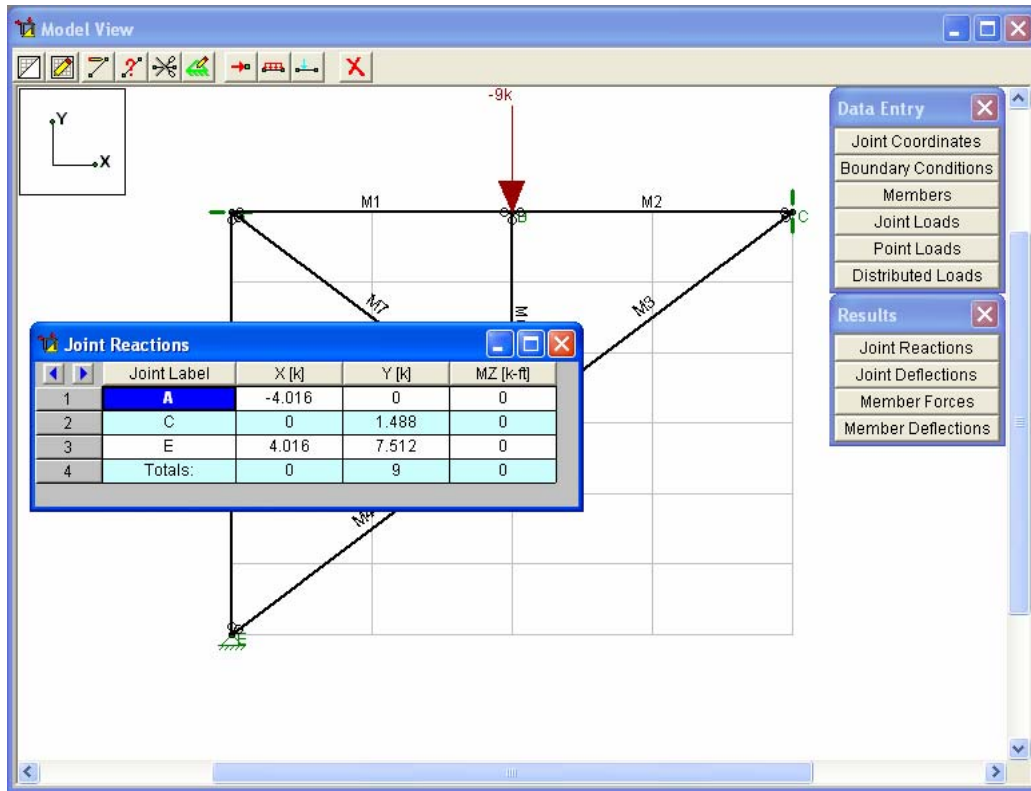

Figure 12
- (12) Now click **Solve** (or click the  icon) from the manual bar. The program will perform the structural analysis. A **Results** toolbar will appear if the analysis is successful (see Figure 12). (Clicking **Results** from the manual bar and select **Results Button Toolbar** can also activate this toolbar.) If the data entry is incomplete or the structure is unstable, the program will issue an error message. A **Joint Reactions** spreadsheet summarizing all the reaction forces will also appear in the window. The last row represents the summation of all reaction forces in the X and Y directions, respectively, which can be used to check global equilibrium. Figure 12 shows that the sum of horizontal reactions is equal to zero. In the vertical direction, the summation of the vertical reaction forces (9 kips) is also in equilibrium with the downward external load (-9 kips).